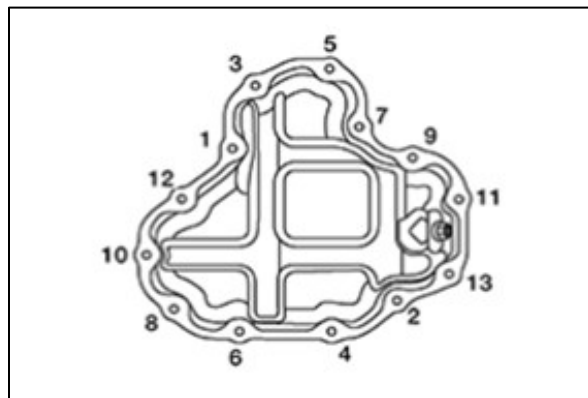

Figure 6
- Torque the lower engine oil pan bolts to specification using the sequence in Figure 6.